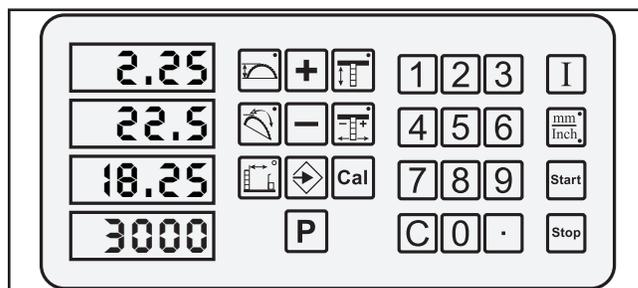

Figure 18. Screen returned to normal view.
4. Press and hold the input confirmation  key until the display stops flashing. The screen will return to the normal view, as shown in **Figure 18**.